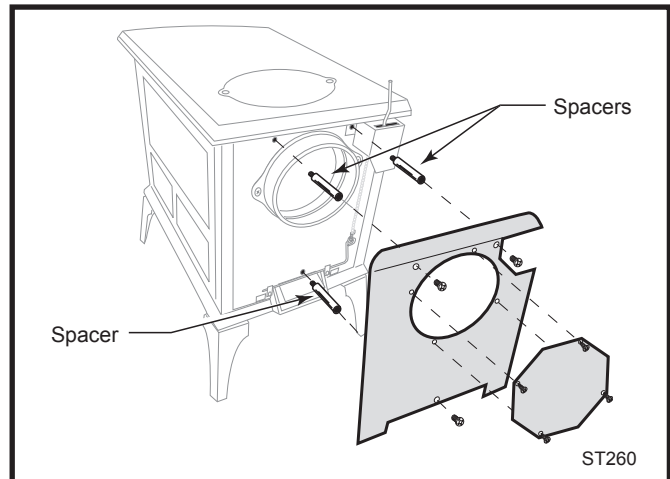

Fig. 26 Install the rear heat shield.
1. Remove the three phillips head screws from the back of the stove. The upper right screw also serves to secure the thermostat cover to the stove. (Fig. 26)